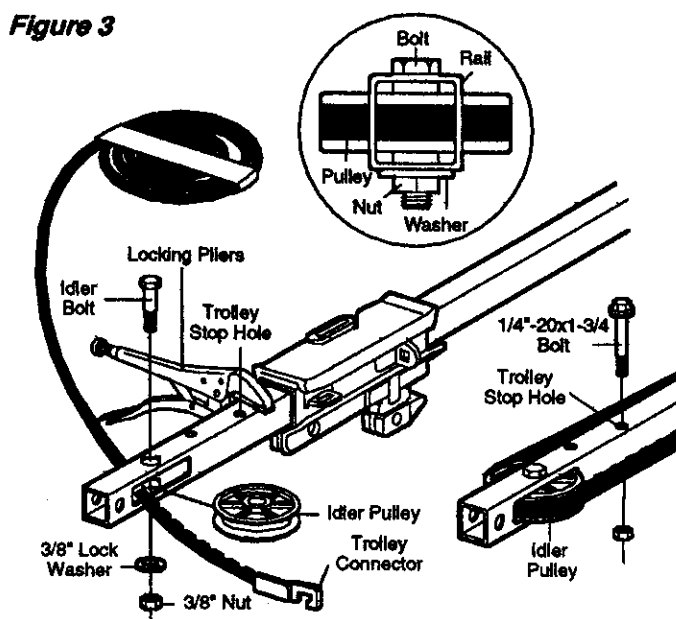

Figure 3
12. Lay the new belt beside the rail as shown in Figure 3. Grasp the end with the hooked trolley connector and pass approximately 12" of belt through the window,